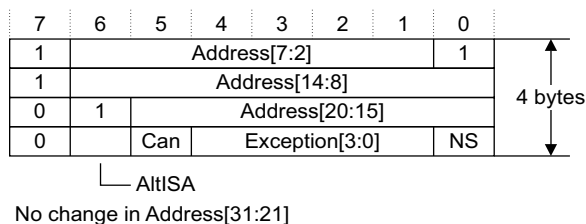

Figure 7-23 ARM branch with exception information bytes and no change in address bits [31:21], alternative encoding
- Figure 7-23 shows the trace packet for an exception branch in ARM state when there is no change in bit [31:21] of the address